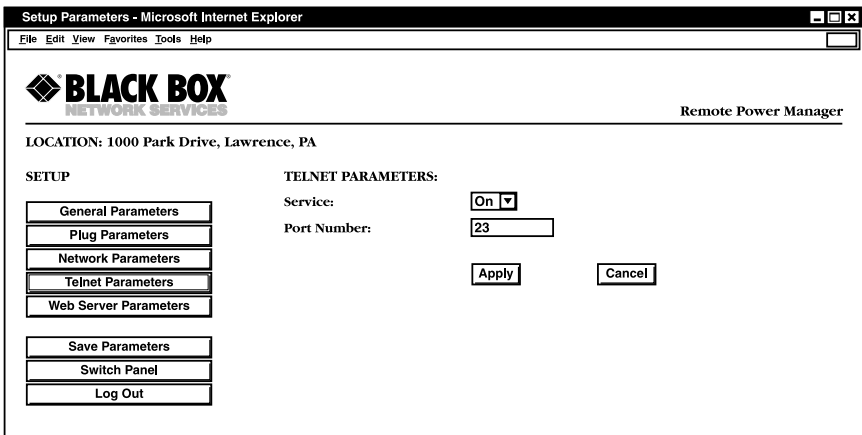

Figure 4-12. Telnet Parameters menu—Web browser interface.
- Web browser interface: Click on the **Setup** button to access the configuration menus, then click on the **Telnet Parameters** button to display the menu shown in Figure 4-12. Once you select the appropriate menu options, click on **Apply** to save the settings or **Cancel** to start over.